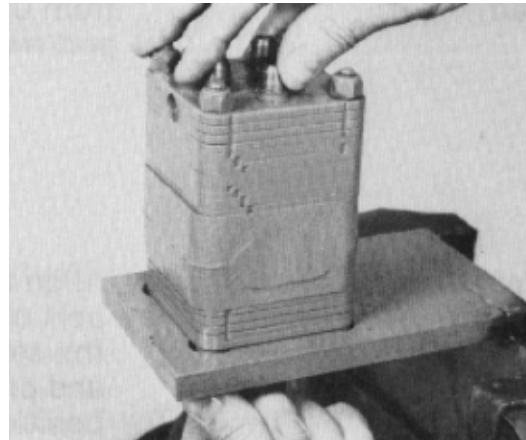

Figure 130
48. Remove the four nuts holding the unit to the fixture and remove the unit (Fig. 130).